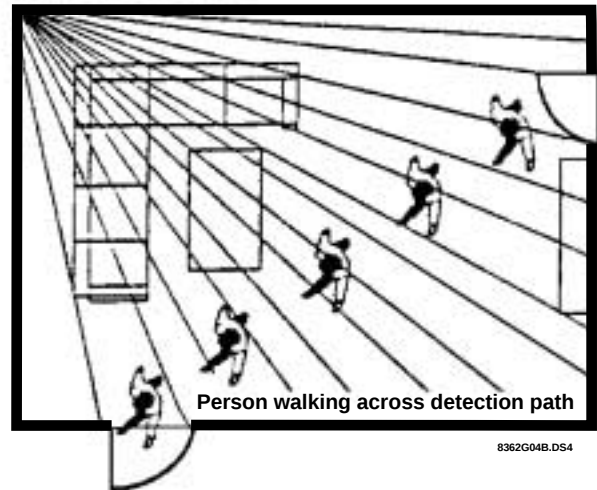

Figure 1. Overhead View of Detection Pattern
- ☐ Position the sensor to protect an area where intruders are most likely to walk across the detection pattern (see Figure 1).